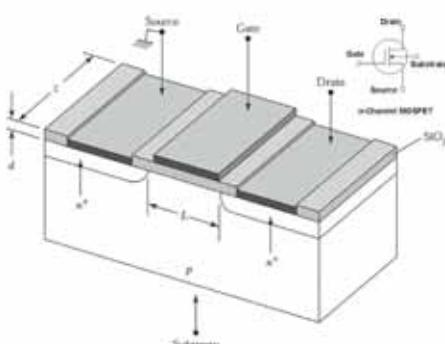

Figure 1: The inside outline (general) and symbol of a MOSFET
Today's microelectronics systems are dominated by MOSFETs (metal oxide semiconductor field effect transistors). A typical MOSFET structure is shown in Figure 1: on a substrate of monocrystalline p-type semiconductor, two junctions are made of type n+ semiconductor, with terminals called drain (D) and source (S). The area between them is made of a 0.01 μ m (or less) silicon dioxide layer – an excellent insulator. As the third terminal, or gate, is isolated from the silicon substrate, the gate current is zero.